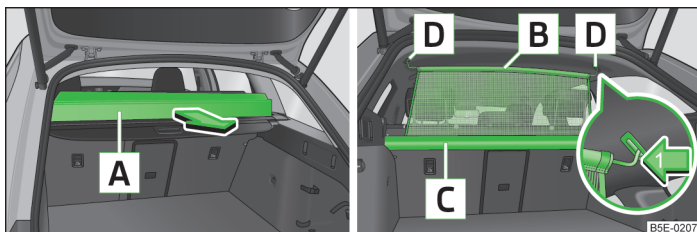
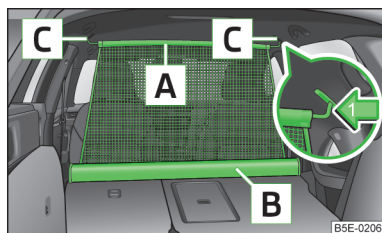

Fig. 100 Folding out part of the roll-up luggage compartment cover/net partition behind the rear seats in the pulled-out state
Fig. 102
- Check that the crossbar of the net partition is hung firmly into the receptacles **D** » Fig. 100 on page 91 and **C** » Fig. 102 on page 92.
- Fold out part of the roll-up luggage compartment cover **A** in the direction of the arrow » Fig. 100.
- Pull out the net partition at the upper crossbar **A** from the housing **B** » Fig. 102.